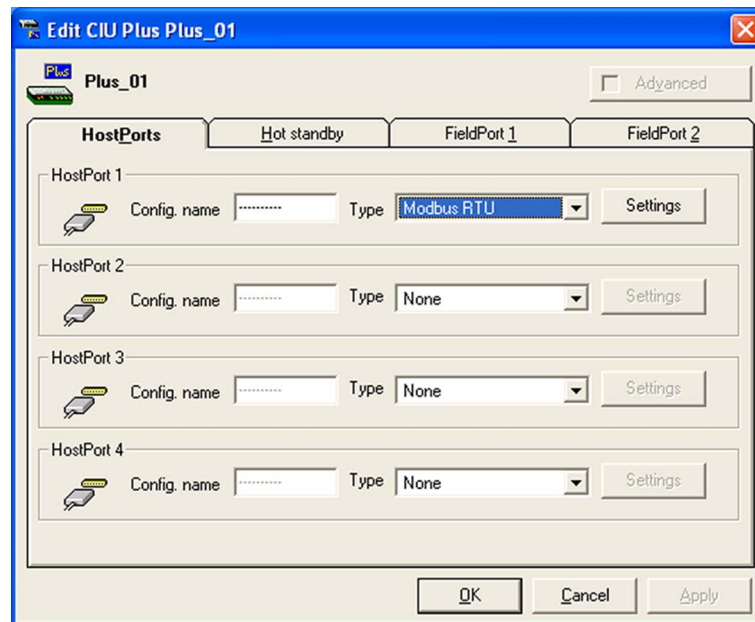

FIGURE 2-6
2. Select the CIU Plus from the list. Next, click **Edit**. The *Edit CIU Plus* window is displayed. By default, the *HostPorts* tab is displayed FIGURE 2-6.